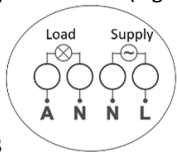

Figure 3
3. Terminate the supply and load conductors into terminal block ensuring correct polarity is observed (Figure 3).